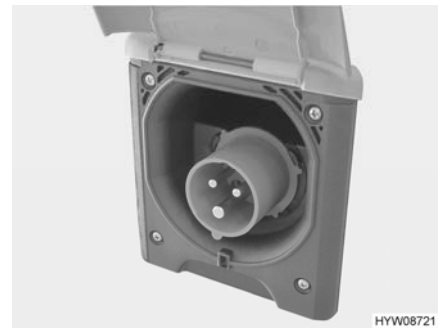

Fig. 156 230 V connection on the vehicle (CEE socket outlet)
- Open the cover of the 230 V connection on the vehicle (Fig. 156) and insert the plug connector. Ensure that the detent of the spring-mounted pivoting cover is engaged in position.